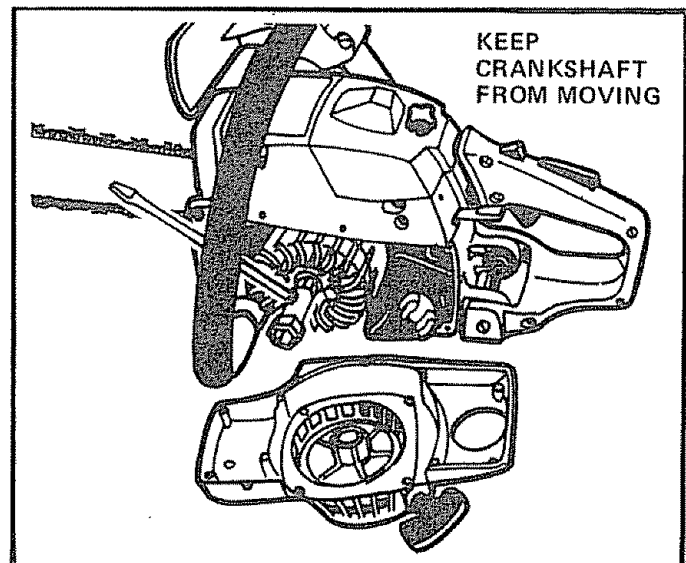

Figure 52
4. Use a 9/16" socket wrench on the flywheel nut to keep the crankshaft from moving. Figure 52.
**NOTE:** Place the socket handle forward as shown in Figure 52.